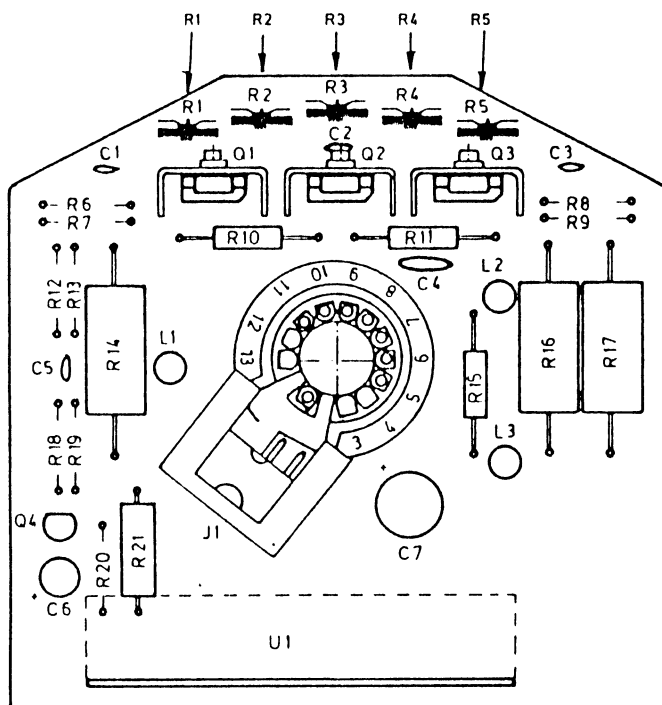

Figure 5.5 Color CRT video amplifier board
1. Display an all-white picture, refer to Figure 5.5.